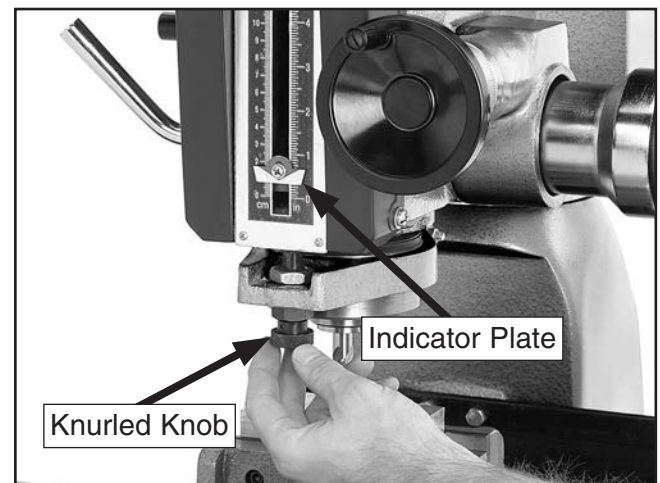

Figure 41. Typical setting of depth stop.
2. Turn the knurled knob of the depth stop leadscrew until the top of the indicator plate is level with your desired depth as listed on the scale to the left or right (**Figure 41**).